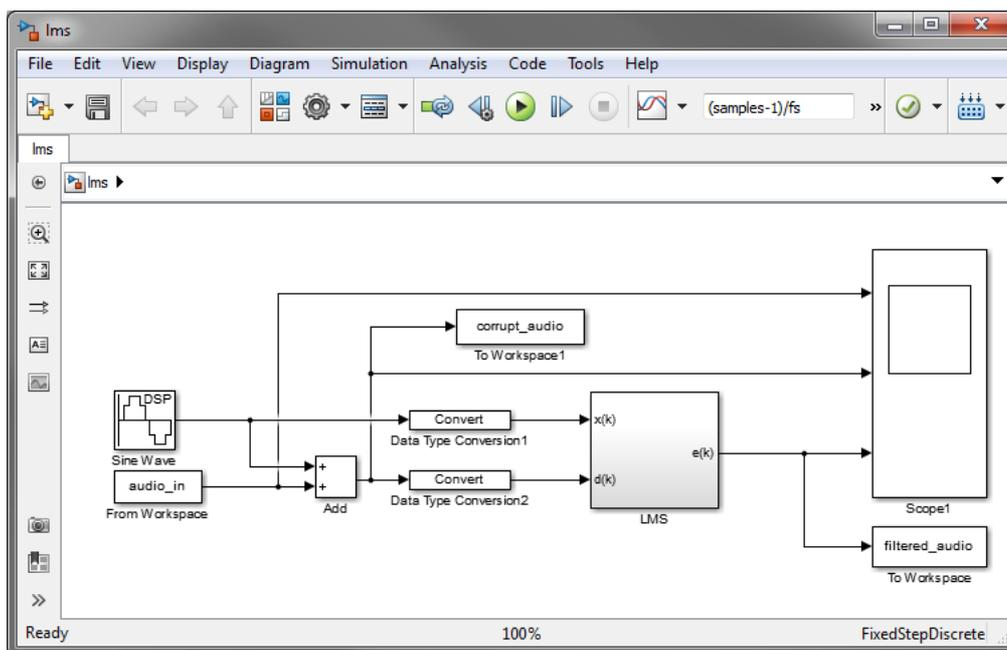

Figure 4.24: LMS model in Simulink
- (e) Open the LMS Simulink model by double-clicking on **lms.slx** in *Current Folder* pane. The model should open and you should see the LMS system, as shown in Figure 4.24.